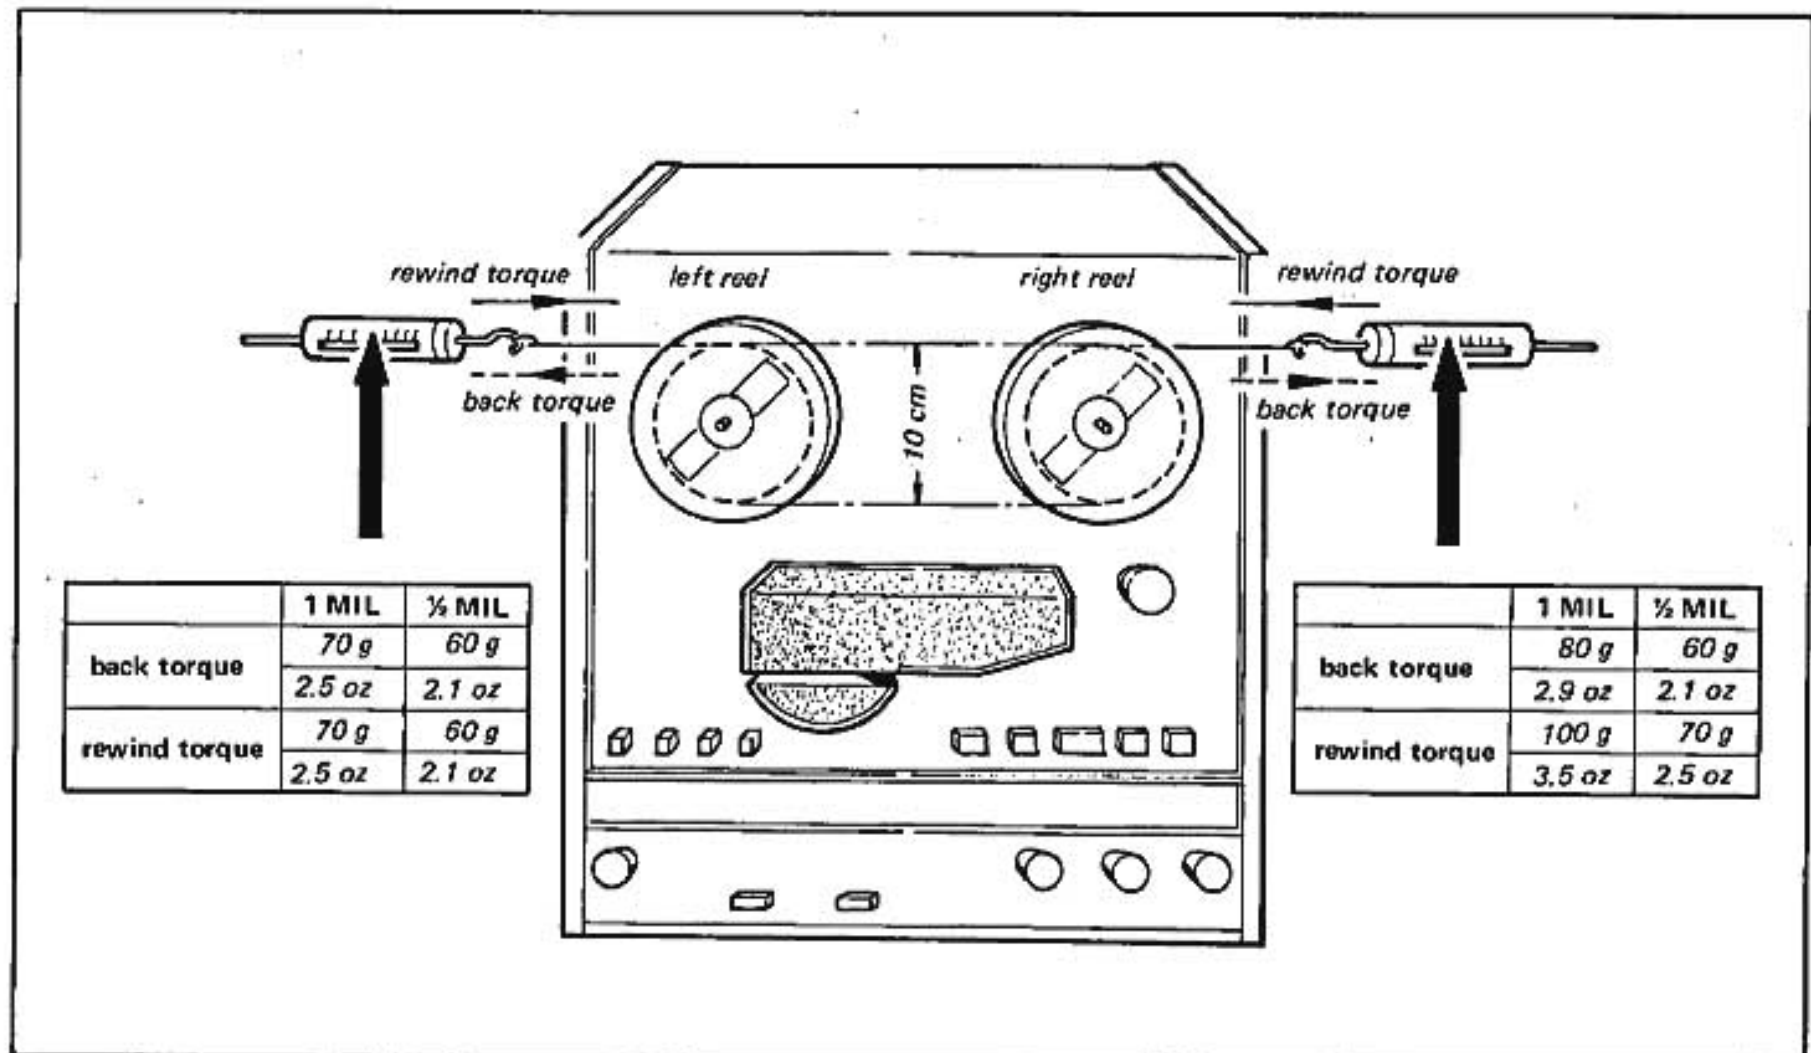

Fig. 6-1. Reel Motor Torque Adjustment
(See Figs. 6-1 and 6-2)
- 1) Set the reel and spring scale as shown in Fig. 6-1.
- 1) Set the reel and the spring scale as shown in Fig. 6-1.
① Left rewind torque . . . Push the REVERSE button marked "◄". Carefully left the spring scale pulled in the direction shown by the solid line and arrow at the constant speed (tape speed). Obtain a spring scale reading of 70 g by adjusting slider band 6 on torque adjusting resistor R701.
② Right rewind torque. . . Push the FORWARD button marked "►". Carefully left the spring scale pulled in the direction shown by the solid line and arrow at the constant speed (tape speed). Obtain a spring scale reading of 100 g by adjusting slider band 3 on torque adjusting resistor R702.
- 1) Set the reel and the spring scale as in Fig. 6-1.
① Left rewind torque . . . Push the REVERSE button marked "◀". Carefully let the spring scale pulled in the direction shown by the solid line and arrow at the constant speed (tape speed). Obtain a spring scale reading of 60 g by adjusting slider band 4 on torque adjusting resistor R701.
② Right rewind torque . . . Push the FORWARD button marked "▶". Carefully let the spring scale pulled in the direction shown by the solid line and arrow at the constant speed (tape speed). Obtain a spring scale reading of 70 g by adjusting slider band 1 on torque adjusting resistor R702.
② Right back torque. . . Push the REVERSE button marked "◀". Carefully pull the spring scale in the direction shown by the dotted line and arrow at the constant speed (tape speed). Obtain a spring scale reading of 70 g. When a 70 g reading is not obtained, repeat each step 2-② in 6-1-1, 6-1-2 and 6-1-3, respectively, for adjustment.
① Left back torque . . . Push the FORWARD button marked "▶". Carefully pull the spring scale in the direction shown by the dotted line and arrow at the constant speed (tape speed). Obtain a spring scale reading of 60 g. When a 60 g reading is not obtained, repeat each step 2- 1 in 6-1-1, 6-1-2 and 6-1-3, respectively, for adjustment.